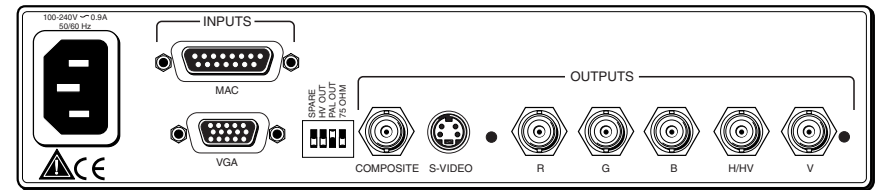

Figure 2-2a. Rear panel of a VSC 100
- 2 There are four output formats available on the VSC 100. Connect the appropriate output cable(s) (composite video and/or RGBS/RGBHV or S-video) to the output device(s). See Figure 2-2a for output connectors.